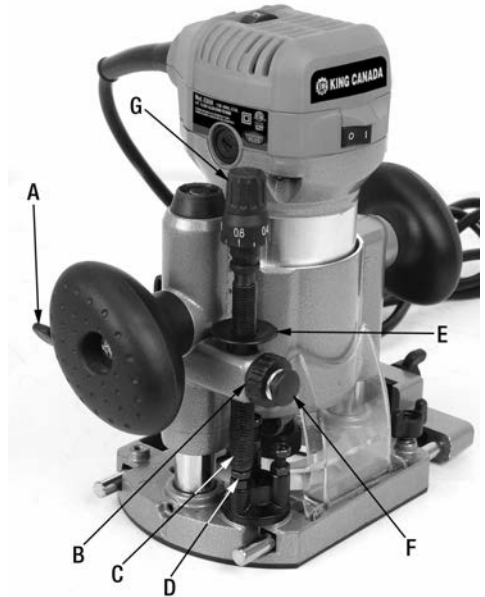

Figure 13
Place the tool on a flat surface. Loosen the plunge base lock lever (A) Fig.13 and lower the tool body until the bit just touches the flat surface. Tighten the plunge base lock lever to lock the tool body.
Turn counterclockwise to loosen the stopper pole setting nut (B) Fig.13. Lower the stopper pole (C) until it makes contact with the adjusting bolt (D). Align the depth pointer (E) with the "0" graduation on the scale behind it. The depth of cut is indicated on the scale by the depth pointer.
Press and hold the fast-feed button (F) Fig.13, raise the stopper pole (C) until the desired depth of cut is obtained. Small depth adjustments can be made by turning the adjusting knob (G) (1mm per turn).
By turning the stopper pole setting nut (B) Fig.13 clockwise, you can fasten the stopper pole (C) firmly. Now, your predetermined depth of cut can be obtained by loosening the plunge base lock lever (A) and then lowering the tool body until the stopper pole (C) makes contact with the adjusting bolt (D) of the adjusting bolts stopper block.